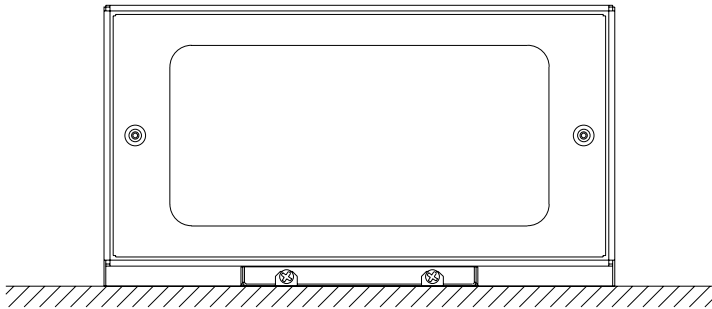

Figure 6
10. Mount luminaire to mounting plate by sliding from top to bottom over plate. See Figures 6 and 6A.
11. Tighten 2 clamp screws evenly. See Figures 6 and 6A.